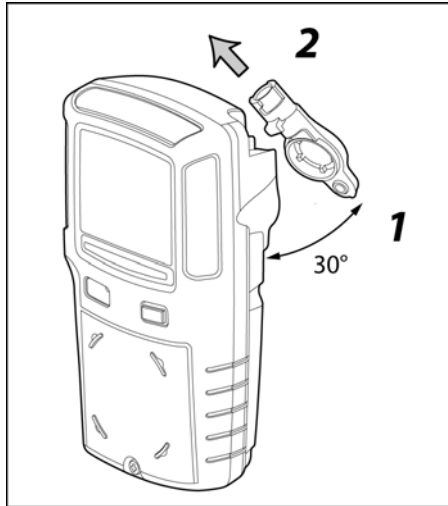

Figure 12. Removing the Pump Filters
2. Remove the pump inlet screw and the pump inlet. Refer to Figure 12.